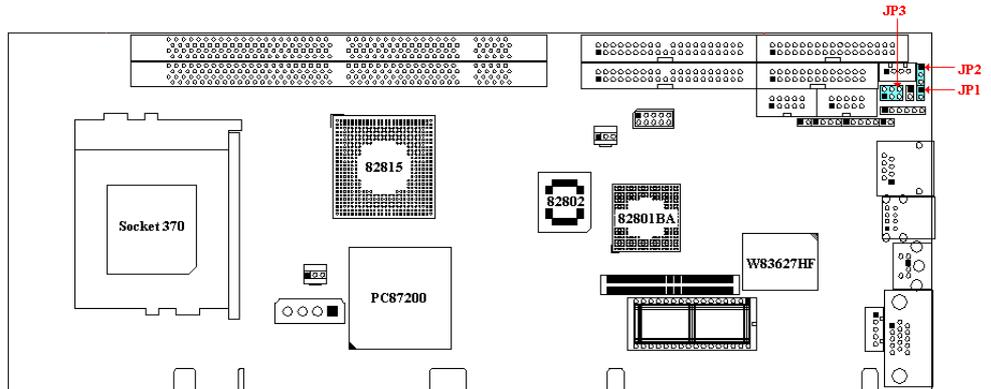

Figure 2-1 ROBO-679 Jumper Locations
In general, jumpers on the single board computer are used to select options for certain features. Some of the jumpers are designed to be user-configurable, allowing for system enhancement. The others are for testing purpose only and should not be altered. To select any option, cover the jumper cap over (Short) or remove (NC) it from the jumper pins according to the following instructions. Here NC stands for "Not Connected". (Figure 2-1)